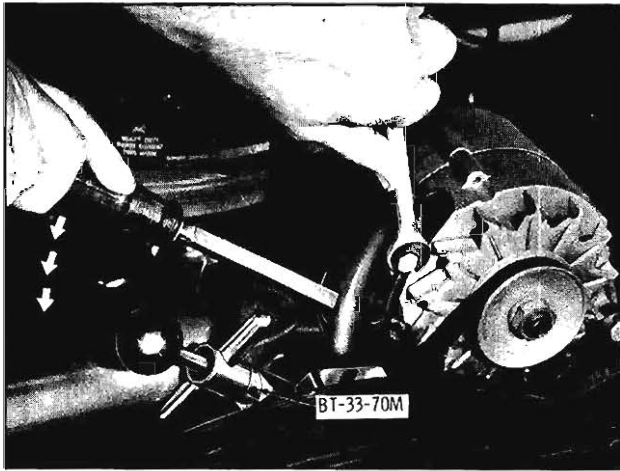

Fig. 3-440 Belt Adjustment
7. Install crankshaft pulley and four (4) attaching bolts. Torque 15-20 ft. lbs.
8. Install fan pulley, fan and four (4) attaching bolts. Torque bolts 15-20 ft. lbs.
9. Install belts and adjust using Tool BT-33-70M. Refer to Fig. 3-440 or Fig. 8-21.
4. Install and adjust belts. (Fig. 3-440 or Fig. 8-21)